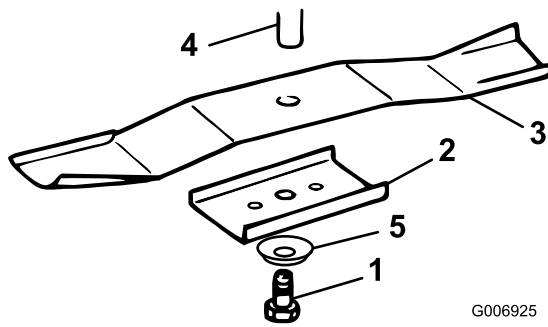

Figure 29
3. Remove the bolt (5/8 inch wrench), curved washer, retainer, and blade (Figure 29). Use a block of wood as a wedge between the blade and the mower to lock the blade when you are removing the bolt.
1. Install each blade, blade retainer, curved washer (cupped side toward blade), and the blade bolt (Figure 29).